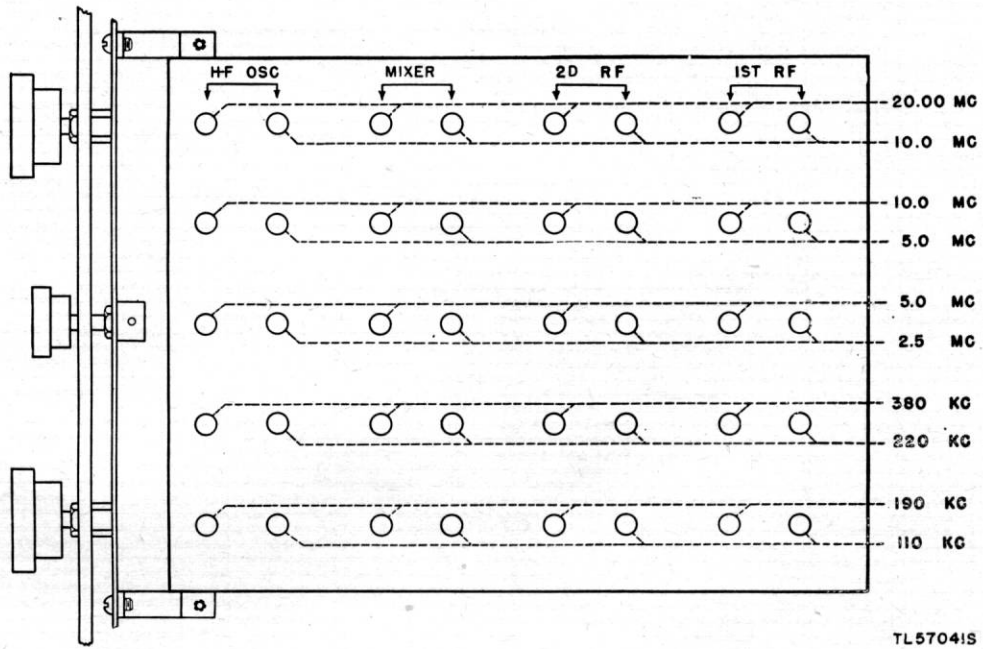

Figure 46. Radio Receiver BC-779-(*), alinement chart.
shown in figures 46, 47, 48, and 49, respectively. If necessary, the second harmonic can generally be used when the fundamental frequency is not available. For example, a signal generator covering all frequencies from 100 kc to 20 mc, in addition to being ideal for checking Radio Receiver BC-779-(*), could be used to check Radio Receiver BC-794-(*), by using the second harmonic of 20 mc instead of the 40 mc called for in figure 47. The signal generator should have an output of about 100 microvolts and an output impedance of approximately 100 ohms for best results when alining the r-f and h-f oscillator circuits. For i-f alinement these values are not critical. The frequency calibration of the signal generator is extremely important in order that the receiver dial calibration be correct.
b. To correct dial calibration, refer to an alinement chart, figure 46, 47, 48, or 49 for the location of the h-f oscillator adjustments as well as the signal frequencies at which the settings should be made. If the 2.5- to 5.0-mc band is to be corrected, the signal generator may be *accurately* set to 2.5 mc and its second harmonic (if strong enough) used for the 5.0-mc end of the band. In either case, whether the 5.0-mc frequency is the fundamental or second harmonic, the 5.0-mc frequency *must* be accurate. This requires that the setting of the signal generator be accurately adjusted by the use of a frequency meter as described in paragraph 94. The output of the signal generator should be unmodulated and the SIGNAL MOD-CW switch on the receiver turned to CW. Set the BEAT OSCILLATOR control at 0, the AUDIO GAIN at 10, and the AVC-MANUAL switch on MANUAL. Disconnect the output meter and use headphones or loudspeaker to make the necessary adjustments by the zero beat method. Connect the signal generator to the antenna terminals for this test.
c. Set the receiver MAIN TUNING dial to the 5.0-mc end and then tune it to zero beat with the 5.0-mc output of the accurately calibrated signal generator. Notice the approximate dial error. Then turn the MAIN TUNING dial slightly toward the 5.0-mc calibration line until the beat note rises to a high pitch. Do not turn the dial far enough to raise the beat note so high that you cannot hear it. With the alinement screw driver adjust the trimmer capacitor marked H-F OSC-5.0 MC (fig. 46, 47,
48, or 49) until the beat note is again zero. Turn the MAIN TUNING dial still farther toward the 5.0-mc line and make a further adjustment of the trimmer capacitor to return to zero beat. Repeat this procedure as many times as necessary to bring the dial to exactly 5.0 mc. (It is evident that the dial could be set at once on exactly 5.0 mc and the trimmer turned enough at one time to produce zero beat, but the step-by-step method is recommended). Accurately set the signal generator to 2.5 mc by calibrating it with the frequency meter. Then tune in the 2.5-mc signal at the l-f end of the MAIN TUNING dial and correct the calibration step-by-step, as before, using the inductance trimming adjustment H-F OSC-2.5 MC (fig. 46, 47, 48, or 49). Accurately set the signal generator for an output of 5 mc again, and tune the receiver to this frequency. It will be found that the adjustment of the inductance at 2.5 mc has changed the correction previously made at 5.0 mc. This is perfectly normal, because an adjustment at one end of the dial also affects the other end of the band. It will therefore be necessary to go back and forth several times from 2.5 to 5.0 mc in order to bring both ends of the dial scale into exact agreement with the signal frequency. Be sure that the signal generator is always accurately set.
c. Starting with the 2.5- to 5.0-mc band, set the MAIN TUNING dial at 5.0 mc (band spread dial at 100) and adjust the frequency of the signal generator for peak deflection of the output meter. Then check and adjust the setting of the trimmer marked MIXER and 5.0 MC in figure 46, 47, 48, or 49 for maximum reading on the output meter. Repeat this procedure on trimmers indicated as 2D RF and 1ST RF in the same row. If readjustments on one of these settings result in a sizable increase in output meter reading, slightly alter the SENSITIVITY control to reduce the reading to half-scale. After each adjustment check the tuning of the receiver to make sure that the test signal is still accurately tuned. The BAND SPREAD control may be used as a vernier for this purpose in those bands in which it operates (par. 15c). *This tuning check is extremely important at the high end of the 10- to 20-mc and 20- to 40-mc bands where there is some slight interaction between the mixer and h-f oscillator circuit.* After checking the three trimmers at the high end of this band, turn the MAIN TUNING dial to 2.5 mc and retune the signal generator to suit. Then check the three inductance adjuster settings marked 2.5 mc in the same row. Since adjustments at one end of a band also affect the other end of that band, it will be necessary to repeat the above procedure until no further improvement can be secured. The number of repetitions necessary will depend on how much mistuning existed to start with. Check the rest of the bands in the same manner.